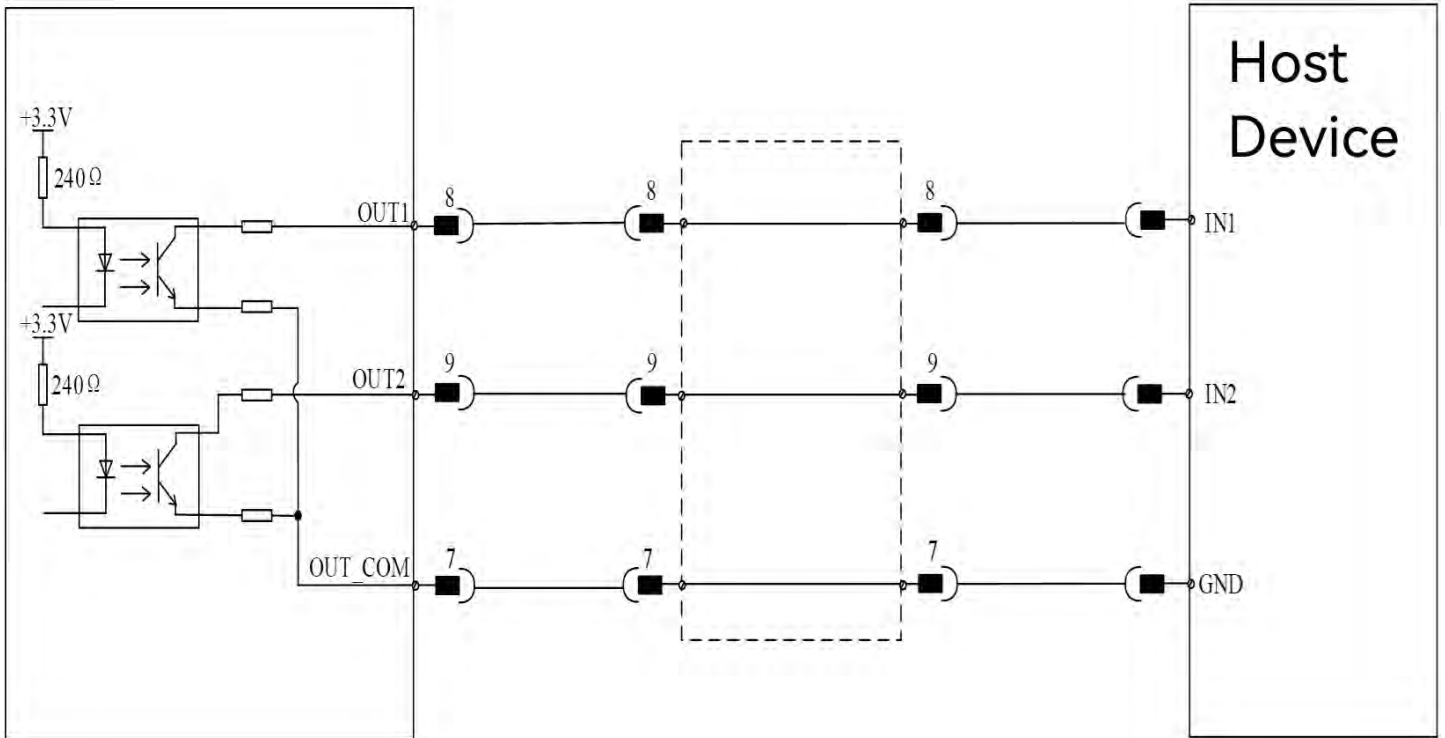

Figure 6-15 Digital output DO terminal wiring diagram
(4) Digital output DO terminal (as shown in Figure 6-15):